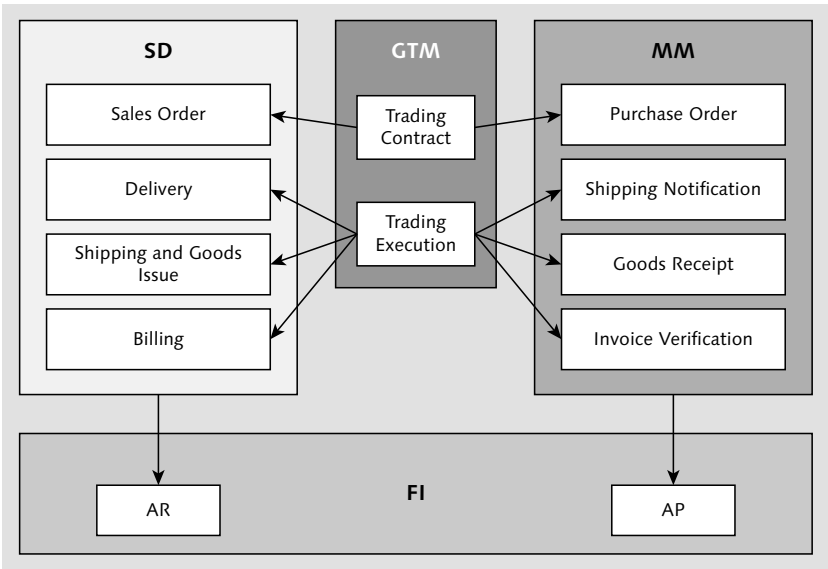

Figure 1.4 GTM Integration with ERP SD, MM, and FI
Global trading and trading business starts with a sales order for customers or a purchase order for vendors. The implementation and configuration of both Sales and Distribution and Material Management (MM) components and settings are mandatory. The customer and vendor master data should be configured to allow the GTM application to coexist and integrate properly (see Figure 1.4).